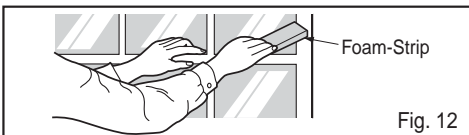

Fig. 12
6. Cut the Foam-strip to the proper length and insert between the upper window sash and the lower window sash.(See Fig. 12)